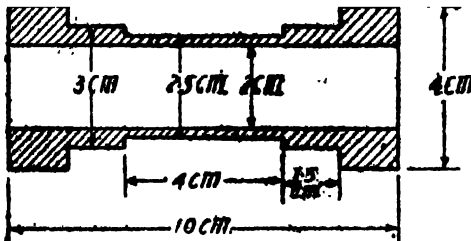

Fig. 6.28
16. Estimate the manufacturing cost of the component shown in Fig. 6.28. Assume 15% of the material is lost in machining, machining cost 2 paise per sq. cm. and the cost of material as Rs. 1.50 per kg. Density of mild steel 8 gm/c.c.